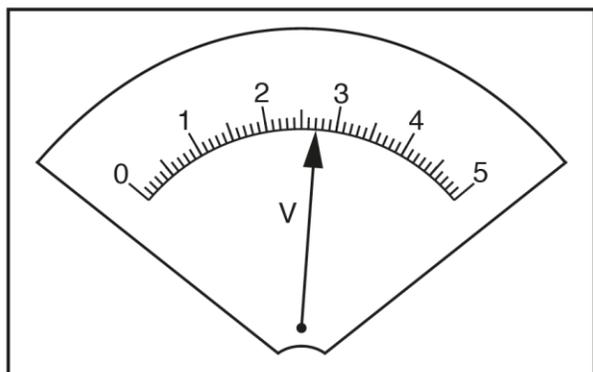

Fig. 2.2
- (b) In the first line of Table 2.1, record the potential difference  $V$  and current  $I$  for wire **A**, as shown in Figs. 2.2 and 2.3. [2]